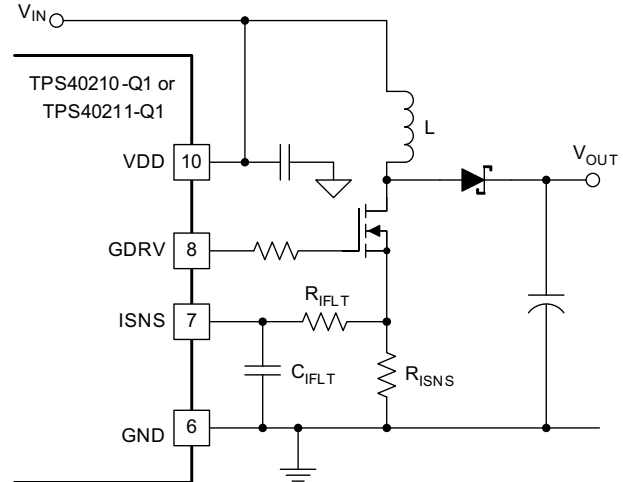

图 7-2. Current Sense Components
- V_D is the drop across the diode in 图 7-2
- V_D is the drop across the diode in Figure 7-2
It is possible to increase the voltage compensation ramp slope by connecting the V_{DD} pin to the output voltage of the converter instead of the input voltage as shown in Figure 7-2. This can help in situations where the converter design calls for a large ripple current value in relation to the desired output current limit setting.
In most cases, a small filter placed on the ISNS pin improves performance of the converter. These are the components R_{IFLT} and C_{IFLT} in 图 7-2. The time constant of this filter should be approximately 10% of the nominal pulse width of the converter. The pulse width can be found using 方程式 10.